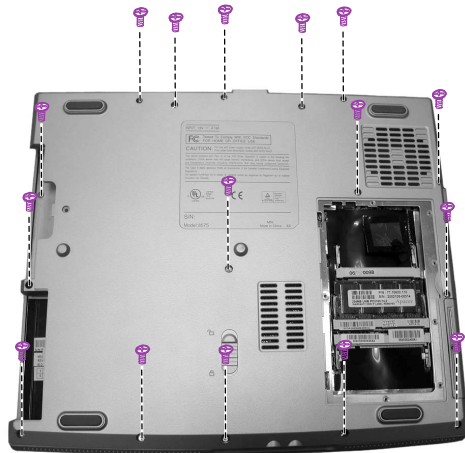

Figure 2-21 Remove the bottom
2. Remove sixteen screws on the bottom of the notebook. (Figure 2-21)